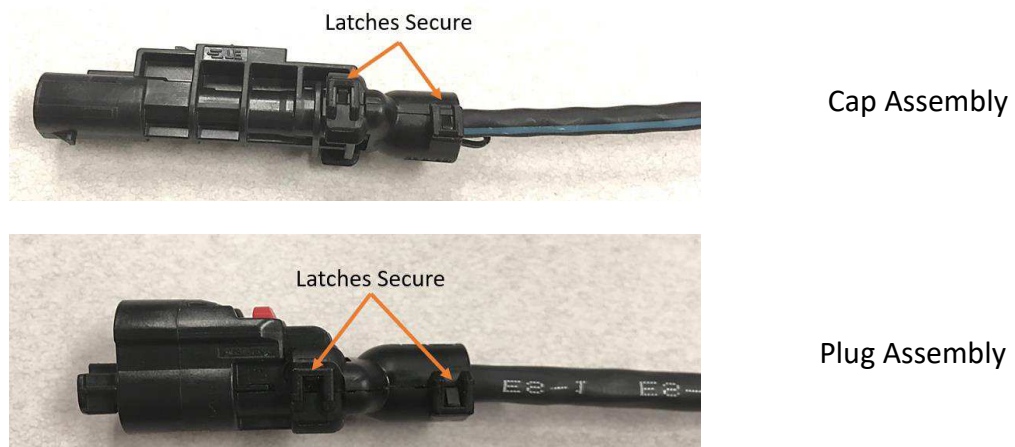

Figure 20
- ii. Fold the Wire Dress Cover at the center of the hinge so that the halves mate around the connector housing; then ensuring that the wire bundle is within the seams of the wire exit, compress the halves together until all the latches are secure. See Figure 20.